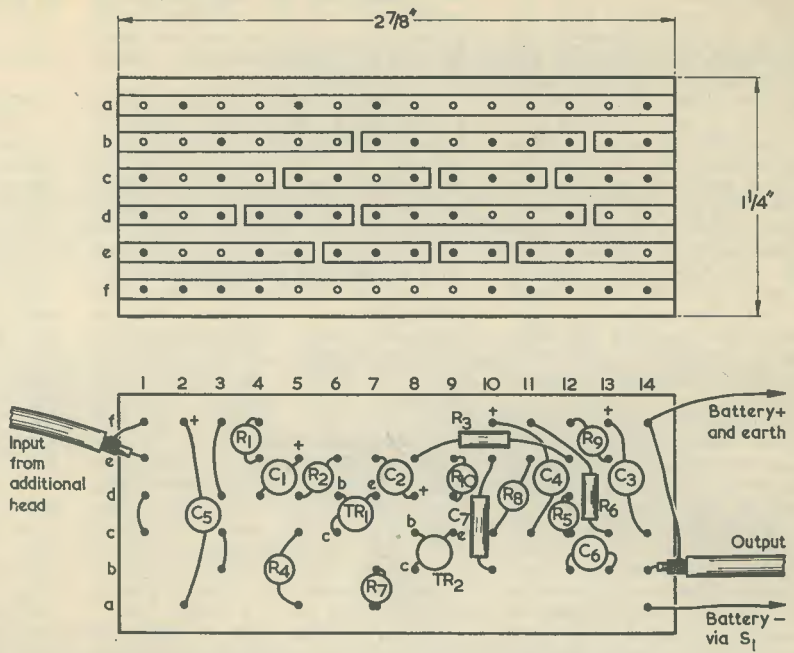

Fig. 5. The copper and component sides of the Veroboard panel on which the preamplifier is assembled. Switch S_1 is external to the board
- Veroboard, 0.2in matrix, 2 1/2 x 1 1/2 in (see Fig. 5)
The amplifier may be built on a piece of Veroboard with a 0.2in hole matrix, and a suitable layout is shown in Fig. 5. The copper may be easily cut with an ordinary pen-knife to achieve the strip geometry required. Because of the small size of the board employed, and to achieve high density packing, most components are mounted vertically. It is best to solder in the resistors first, these being the least heat-susceptible; then the capacitors should follow, the
electrolytic capacitors having their positive ends nearer the board. The two transistors should be last, not forgetting to use heat shunts during soldering. It may be wondered why the unused sections of the board near the input connection are shown as earthed in Fig. 5, but the writer considered it desirable to have a certain amount of earthed metal around the sensitive input end of the preamplifier.